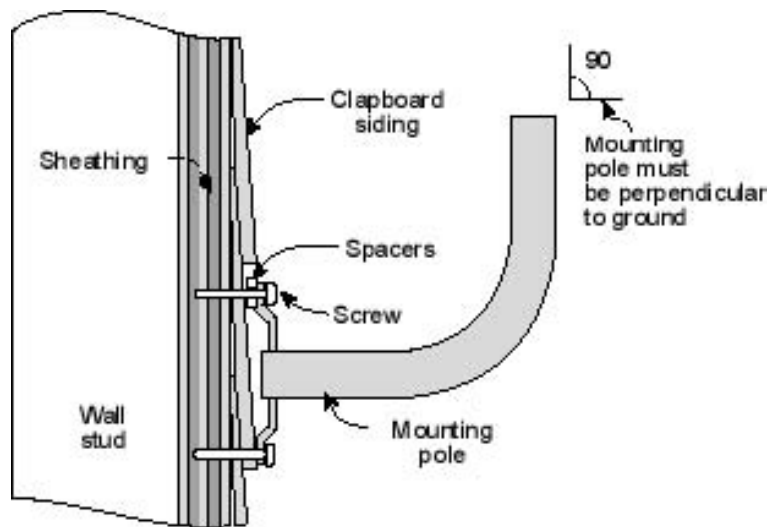

Figure 4-6 Mounting Pole on Clapboard Siding
- 2) Using a level, be sure that the mounting pole is perpendicular to the ground. You may need to use spacers, as shown in Figure 4-6.